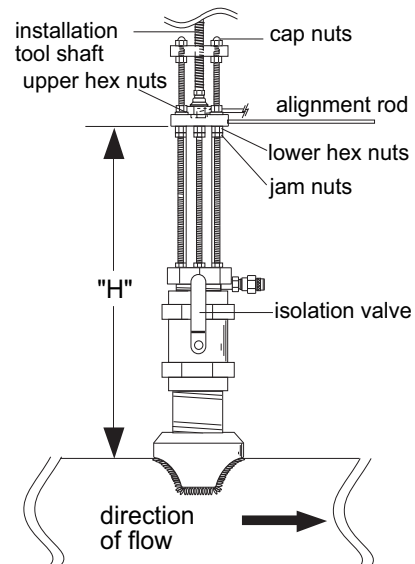

Fig. 12
- H.** Align the sensor cable with the swivel mount cable port to prevent cable pinching. Use a 3/8 inch wrench or socket to turn the installation tool shaft clockwise until it is seated in the hole at the top of the sensor flange. (Fig. 12)
- I.** Wearing safety face protection, **slowly open the isolation valve to the full open position**. Loosen the lower hex and jam nuts and move them to the proper "H" dimension. Turn the installation tool shaft **clockwise** until the sensor flange contacts the lower hex and jam nuts. Thread the upper hex nuts down until they contact the sensor flange. Tighten the upper hex nuts to secure the sensor. (Fig. 12)